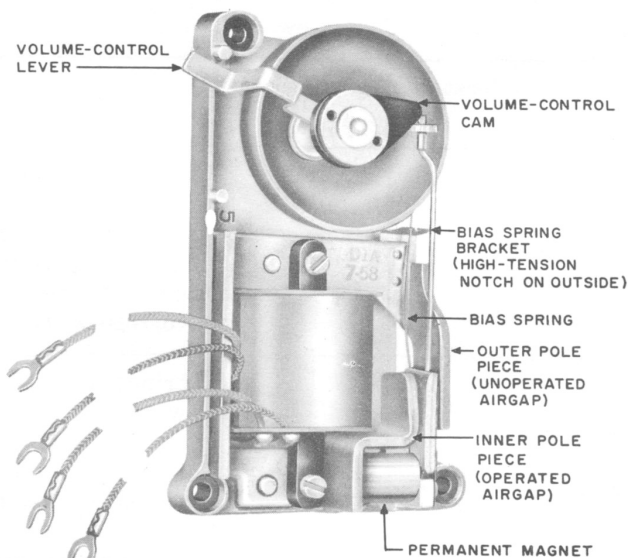

Fig. 1 — D1A Ringer
3.00 MECHANICAL REQUIREMENTS, Fig. 1